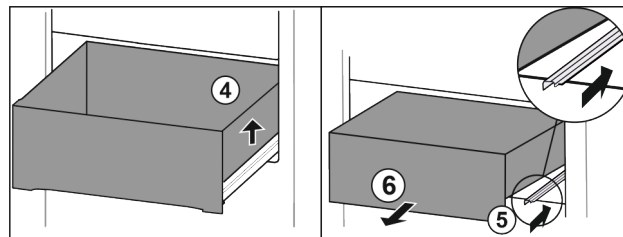

Fig. 73
- ▶ Lift drawer on the right. Fig. 73 (4)
- ▶ Slide in right rail. Fig. 73 (5)
- ▶ Remove drawer to the front. Fig. 73 (6)